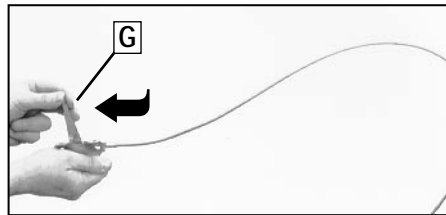

Figure 2-5: Carefully unwrap Wheel Gear Lever and move lever to DISENGAGE.
9. To remove the tiller from its shipping platform, first carefully unwrap the wheel gear cable (with attached lever - see Figure 2-5) from around the chassis. Move the Wheel Gear Lever (G) to the DISENGAGE position--this allows the wheels to rotate. Use the handlebars to roll the tiller off the platform. NOTE: The Wheel Gear Lever will be installed later in this procedure.